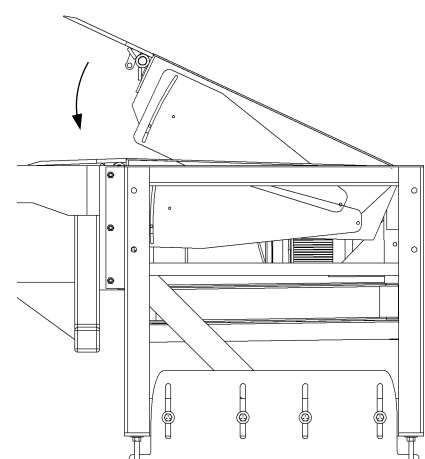

Figure 5: Lowering Leveler onto Bed
3. When the lip is fully extended, release the UP button to lower the leveler onto the truck bed (Figure 5). Verify the lip is in full contact with the truck bed before loading/unloading.